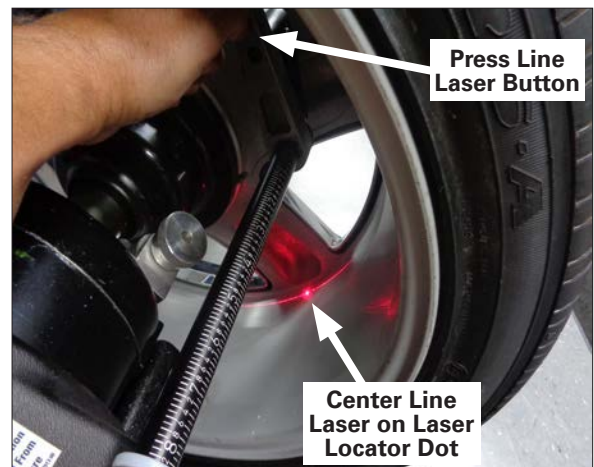

Figure 16b - Positioning Line Laser Beam At T2 Tape Hidden Weight Location (A2)
3. Move arm to inner area of wheel and align line laser beam with laser locator dot (figure 16b). Hold arm still, up against the rim, in the same plane as the T2 Tape (hidden Tape-A-Weight) location (figure 12 and 13) and wait for BEEP. Refer to figure 16b.